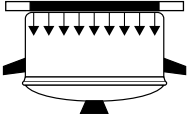

Fig. 12
- **Properly selected pot (fig. 12)**